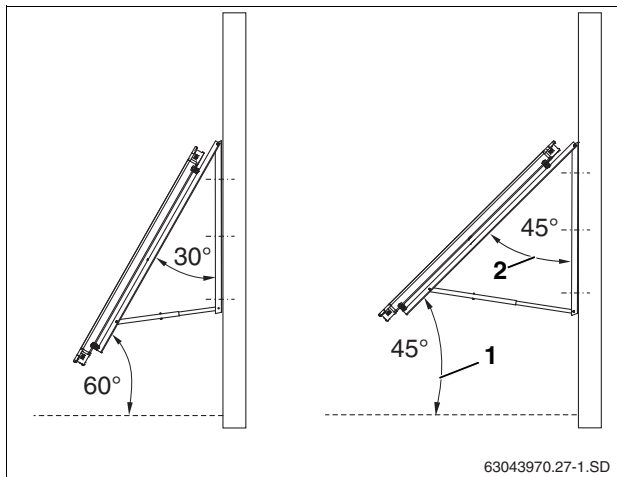

Fig. 10 Permitted inclination of the collector on a wall
- ▶ The collector inclination (Fig. 10, [1]) to the horizontal must be between  $45^\circ$  and  $60^\circ$ . The angle between the collectors and the wall (Fig. 10, [2]) must be between  $30^\circ$  and  $45^\circ$ .